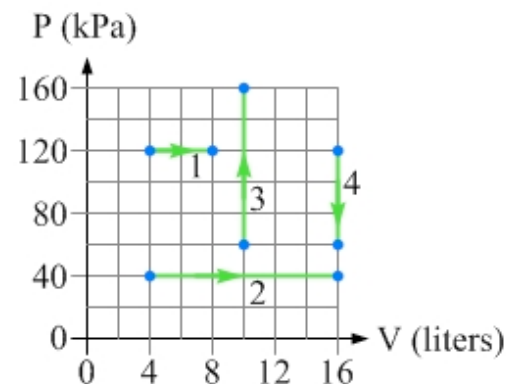

Figure 15.26: A P-V diagram showing four different processes, for Exercises 20 and 21.
20. Four different processes are shown on the P-V diagram in Figure 15.26. The processes are carried out on a system of diatomic ideal gas. Rank these processes, from most positive to most negative, based on (a) the work done by the gas during the process, and (b) the change in internal energy of the gas during the process. Express your rankings in a form like $2 > 1 = 3 > 4$.
21. Return to the situation described in Exercise 20 and shown in Figure 15.26. (a) For the process in which the work done by the gas is most positive, calculate the work. (b) For the process in which the internal energy of the gas increases by the largest amount, calculate that change in internal energy.